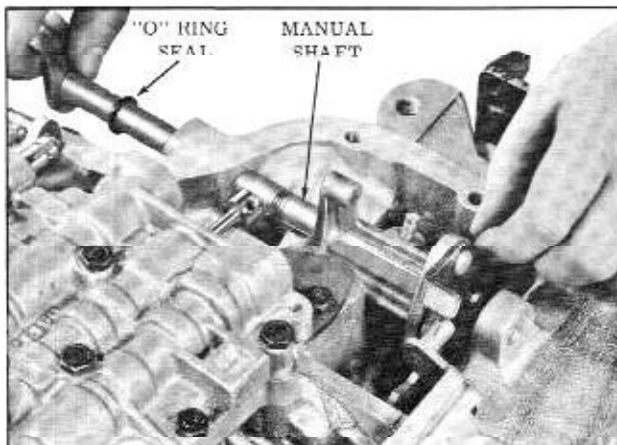

Fig. 3-122 Installing Manual Shaft
61. Install an "O" ring seal on manual lever shaft and install shaft as shown. (Fig. 3-122)